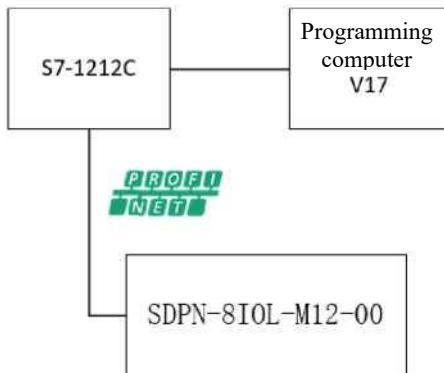

Figure 4-2-1-1 Communication connection diagram
1. The communication connection diagram is shown in Figure 4-2-1-1:
In the menu bar, select "Tools" >"Find PROFINET Device", select the network card connected to the module in the window and search for the device, select the module in the network and edit its device name, as shown in Figure 4-2-1-3 below.
Select "Tools">>“PROFINET” from the menu bar. Select the PLC controller, as shown in Figure 4-2-1-4, add the master module, and assign the device name (the same as the device name assigned in Step 4) and IP address.
To add slave station module, click master module and delete port 1 object. In the right directory, add slave station module and click Generate, as shown in Figure 4-2-1-6 and Figure 4-2-1-7